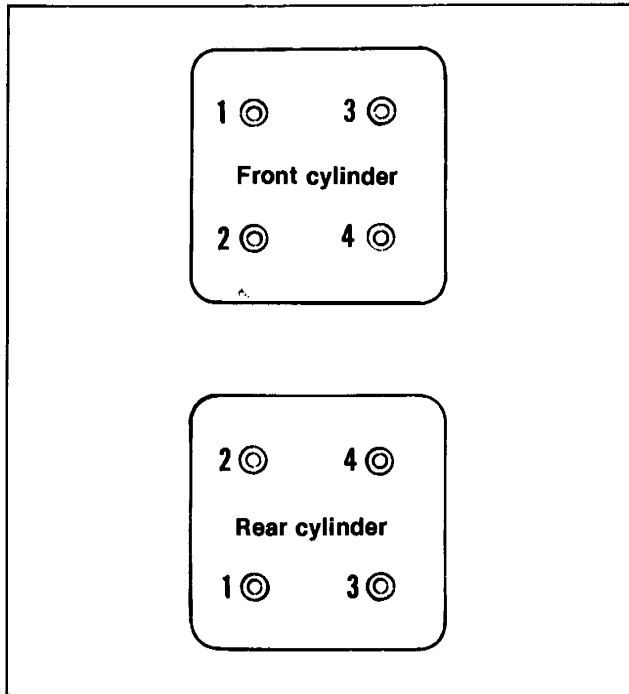

Figure 3-17. Torque Sequence
- See Figure 3-17. The procedure for tightening the head bolts is extremely critical; not only to prevent gasket leaks, but to prevent failure of the studs and distortion of the heads and cylinders.
- See Figure 3-17. With a torque wrench, start at the head screw numbered "1" and tighten to 7 ft-lbs torque. Then tighten "2", "3" and "4", in order, to 7 - 9 ft-lbs torque.